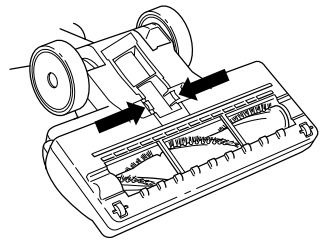

Fig. 31
- Turn motorized floor brush over and detach the hose by squeezing the tabs together and pulling it out. Straighten out the hose and inspect the inside for any blockages. **(Fig. 31)**